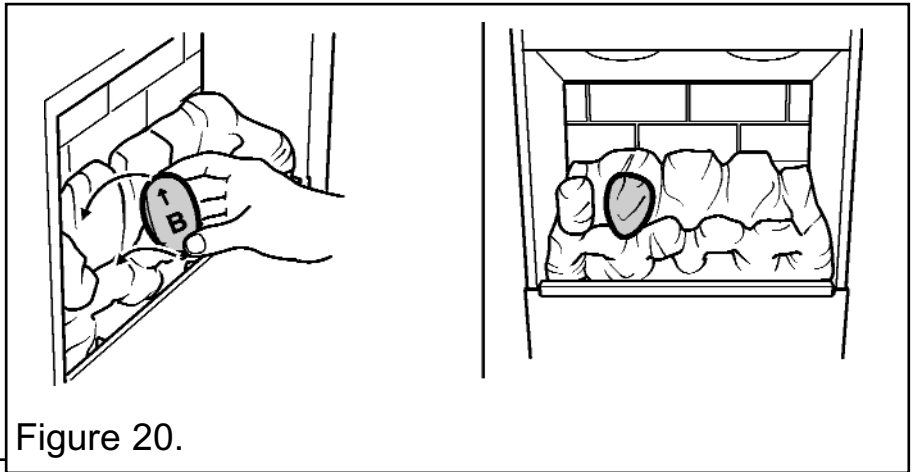

Figure 20.
3. Hold coal 'B' upright with the arrow pointing to the top. Locate coal 'B' as shown in figure 20.